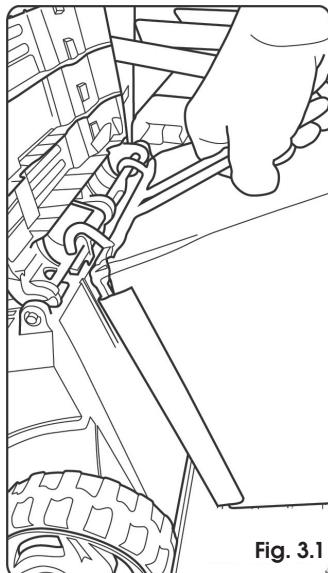

Fig. 3.1
- ✿ To seat the grass catcher on to the lawnmower, it is first necessary to lift the rear safety grass catcher cover. Figure 3.1